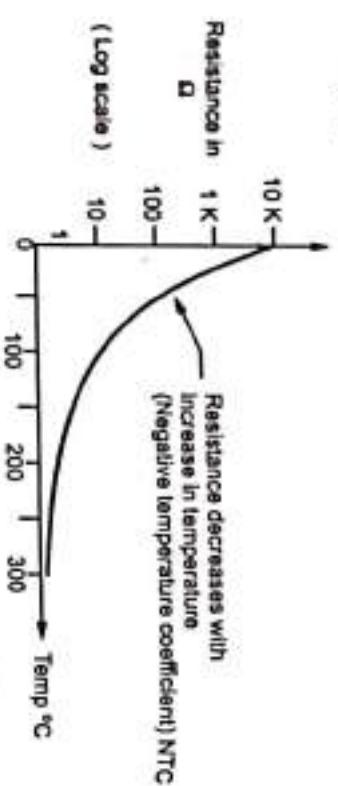

Fig. Q.26.1 Resistance versus temperature characteristics of thermistor
- The Fig. Q.26.1 shows this characteristic.